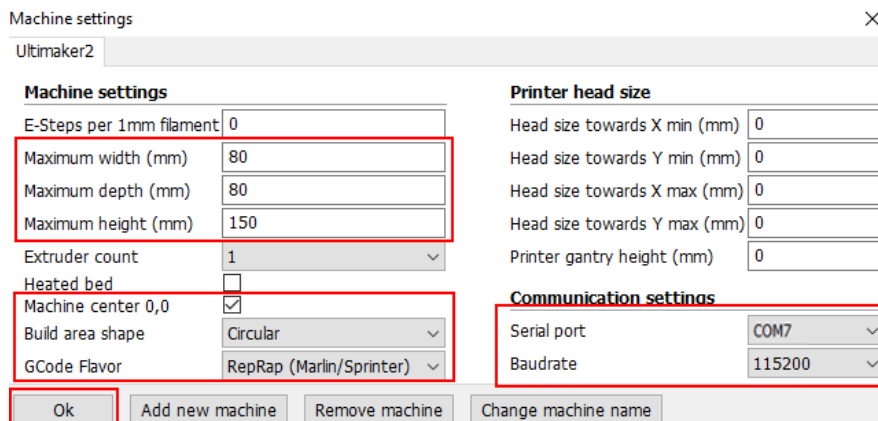

Figure 6.21 Parameters setting
3. Set the corresponding parameters on the Machine settings and click **OK**, as shown in Figure 6.21. Table 6.8 lists the values of the parameters that need to be set. The other parameters are set by default.